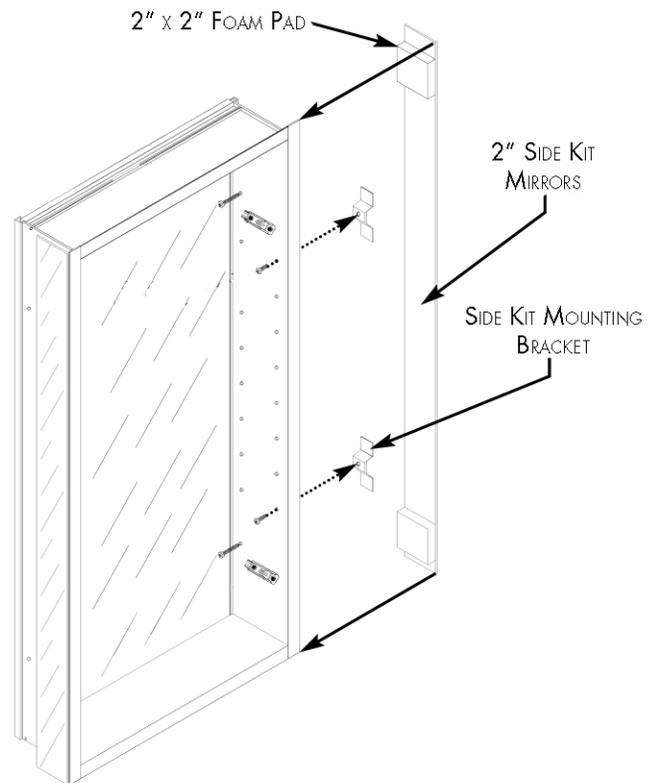

FIG 3
- 4a. Using 10-32 x  $1/2"$  machine screws, attach side kit mounting bracket (Fig 3)
- 4c. Place 2" x 2" foam pads 1" from each end of mirror strip (Fig 3).
- 4d. Peel tape off brackets and place mirrored side kit as shown (Fig 3). Mirror should be even with front of cabinet flange and flush with the top and bottom of the cabinet. Repeat for opposite side.